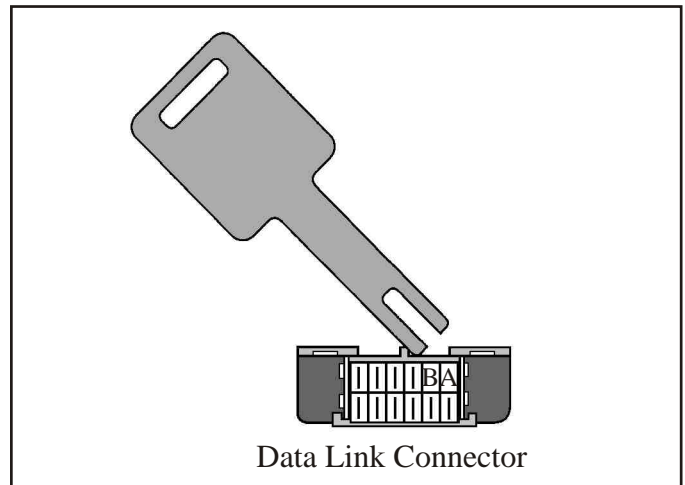

Figure 17
The provision for communicating with the PCM is the data link connector (DLC) which is located under the instrument panel (See Figure 17). The diagnostic trouble code(s) or information flag(s) stored in the PCM's memory can be read either through a hand-held diagnostic scanner plugged in the data link connector or by grounding the diagnostic terminal in the data link connector. Once terminal B (The Diagnostic Terminal) is connected to terminal A (The Internal PCM Ground)
as shown in Figure 17 above, the ignition switch must be moved to the ON position, with the engine not running. At this point, the MIL telltale lamp should flash a Diagnostic Trouble Code (DTC) 12 three times consecutively (*Remember, the MIL telltale lamp is for PCM (EC) diagnostic trouble codes or SHIFT TO D2 lamp on 1991 and 1992 vehicles. The LOW COOLANT/HOT lamp is used on 1993 and 1994 vehicles for PCM (TC) diagnostic trouble codes.*)